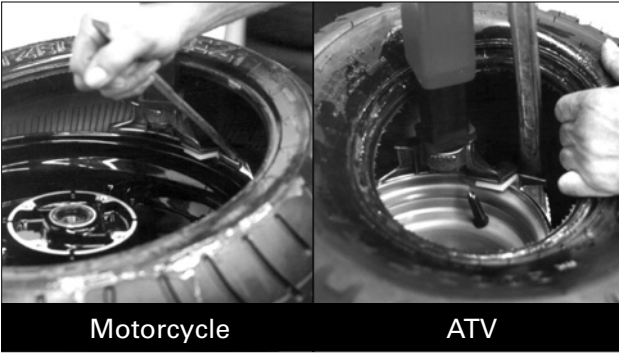

Figure 13 - Demounting Lower Bead
14. Lift and hold the tire at an angle so that the lower bead is resting in the drop center directly across from the demount head, and is loose below the demount head. Insert the smooth curved end of the bead lifting tool down over the forward end of the mount/demount tool and below the lower bead. Lift the bead up and over the knob on the demount head (figure 13).